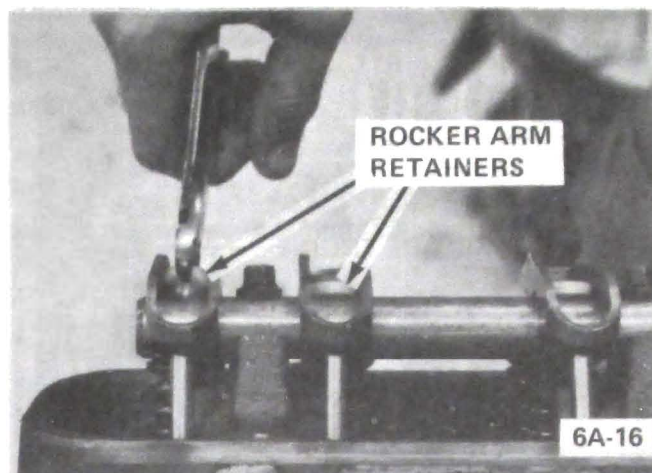

Figure 6A-16 - Removing Nylon Retainer
3. Remove nylon arm retainers by prying them out using a pair of channel locks. See Figure 6A-16.